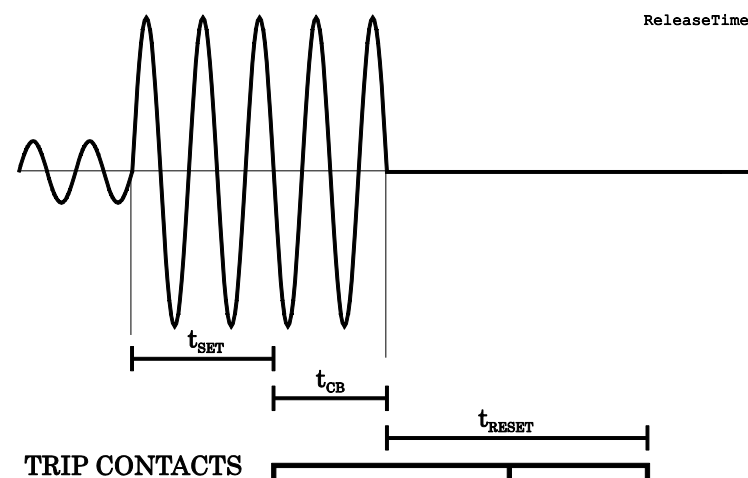

Figure 2.3-2. Reset time is the time it takes the trip or start relay contacts to open after the fault has been cleared.
Figure 2.3-2 shows an example of reset time i.e. release delay, when the device is clearing an overcurrent fault. When the device's trip contacts are closed the circuit breaker (CB) starts to open. After the CB contacts are open the fault current will still flow through an arc between the opened contacts. The current is finally cut off when the arc extinguishes at the next zero crossing of the current. This is the start moment of the reset delay. After the reset delay the trip contacts and start contact are opened unless latching is configured. The reset time varies from fault to fault depending on the fault size. After a big fault the time is longer. The reset time also depends on the specific protection stage. The maximum reset time for each stage is specified in chapter 9.3. For most stages it is less than 95 ms.